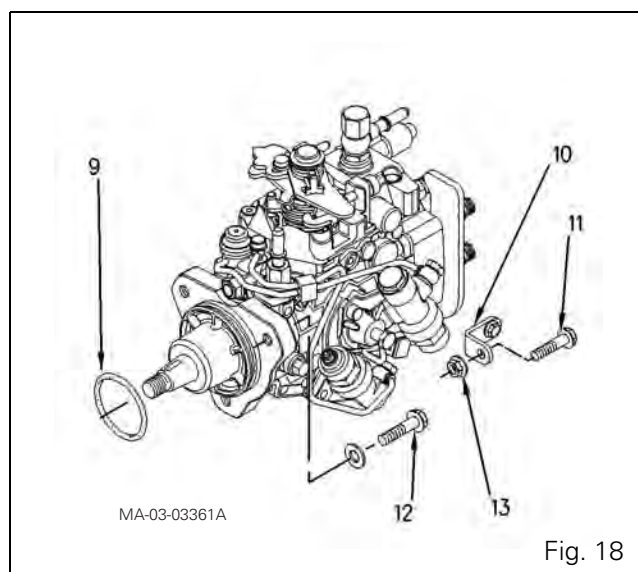

Fig. 18
91. Take out the nut (13) and screw (11) (Fig. 18).
92. If necessary, remove the bracket (10) and its screws from the engine block.
93. Take out the screws (12) to remove the injection pump.
94. Remove the injection pump. Take off and discard the "O" ring (9).